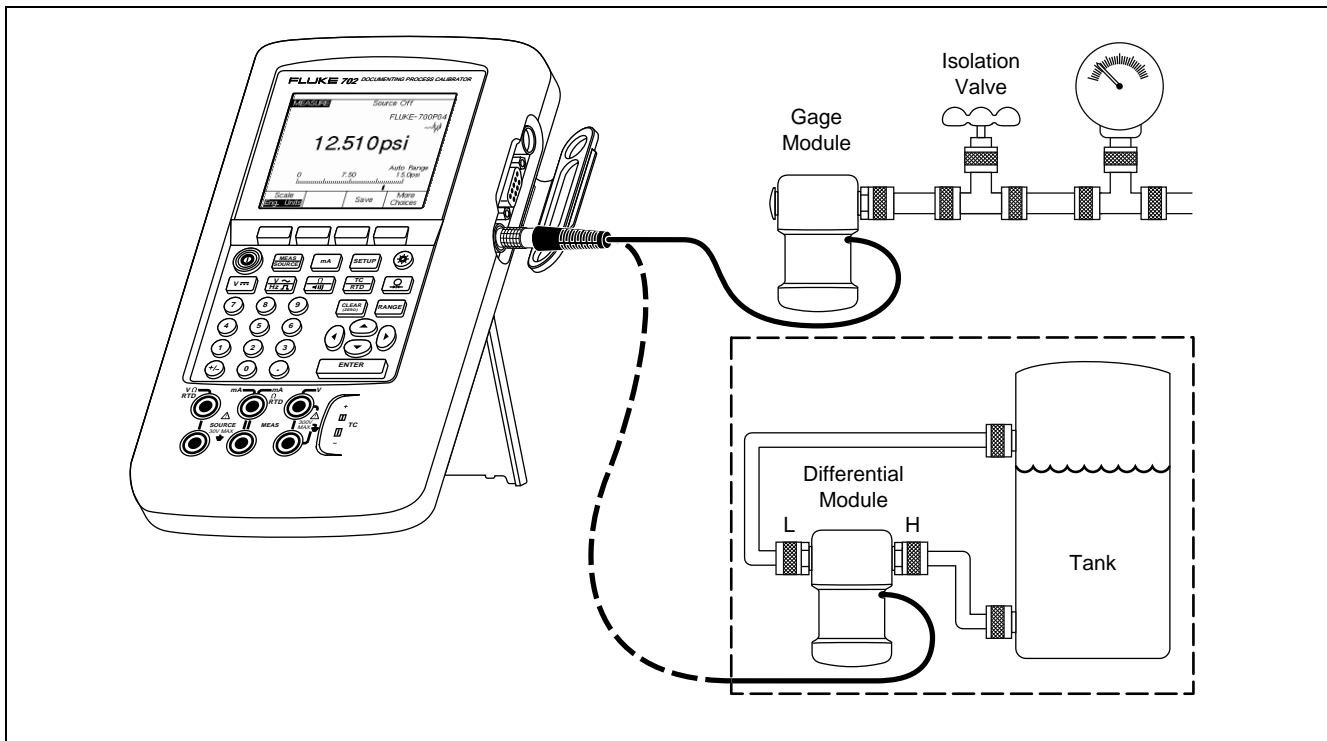

Figure 11. Connections for Measuring Pressure
1. Connect a pressure module to the calibrator as shown in Figure 11. The threads on the pressure modules accept standard ¼ NPT pipe fittings. Use the supplied ¼ NPT to ¼ ISO adapter if necessary.